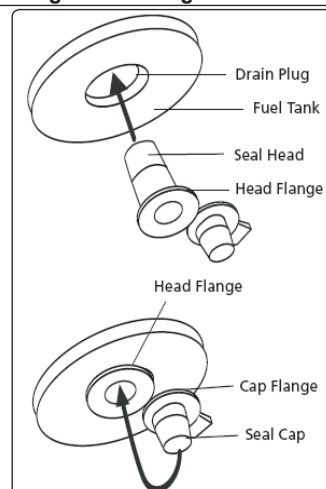

fig.7 Drain Plug Replacement
6.2.2 Replace the seal head back into the drain hole and push the plug grip into the seal head to lock into position see fig.7.